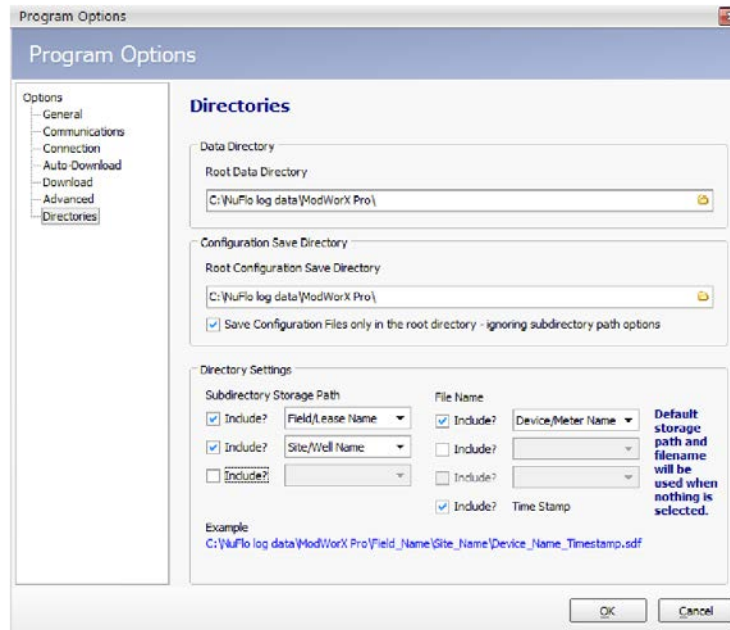

Figure A.24
2. When the Program Options dialog opens, click the *Directories* option from the list at the left side of the screen (Figure A.24, page A-17).